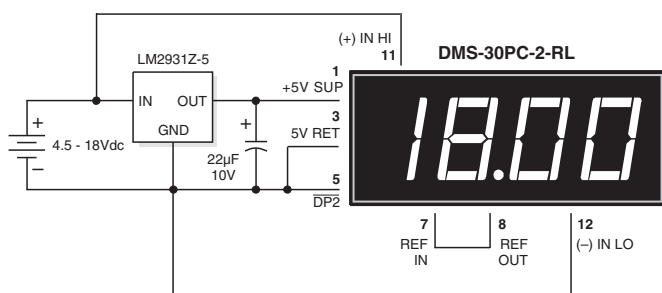

Figure 8. 4.5-18V Power Supply Monitor
**6. Power Supply Monitoring:** One of the most common digital panel meter applications involves monitoring the output voltage of the system power supply — often this supply also powers the meter itself. The low-power, red LED DMS-30PC-2-RL can be configured to allow power supply monitoring over the range of 4.5-18Vdc. The circuit in Figure 8 uses a low-drop-out, three-terminal regulator (LM-2931Z-5, available from National Semiconductor) to provide regulated 5V power to the meter. The LM-2931 was chosen because it has the following on-chip protection features: reverse polarity, short circuit